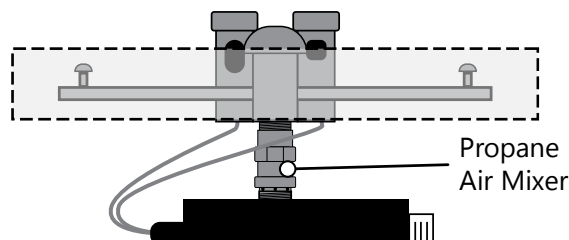

FIGURE 2: AIR MIXER LOCATION
- NOTE: The air mixer must be installed to use liquid propane. The “holes” on the air mixer should always face DOWN, away from the burner and pan. The air mixer should be installed immediately below the burner. (FIG 2)
- If using with propane gas - ONLY use with air mixer correctly installed. (See Fig 2) ½ " air mixer for propane includes stamped marking for gas flow direction. Air mixer is not required with Natural Gas.